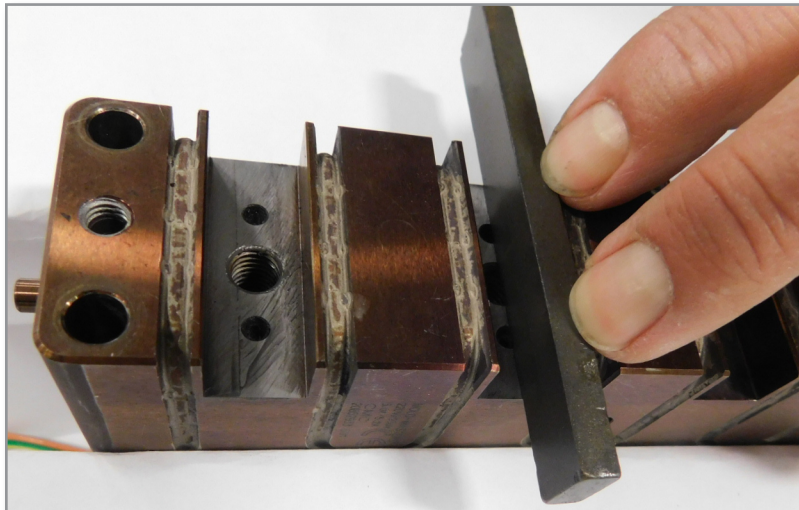

Figure 5-86 Clean manifold interfaces
2. Clean the manifold interfaces with a fine grade (400 or 600 grit) polishing stone. See Figure 5-86.
7. Clean the manifold interfaces on Melt-Cube using a fine polishing stone. See Figure 5-86 Clean manifold interfaces on page 5-138.